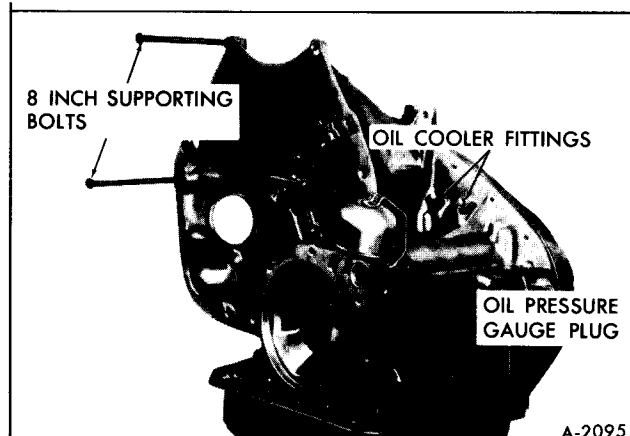

Figure 20—Transmission Support Bolts
1. Install two 3/8 x 8 bolts with nuts into the case to engine mounting face. (figure 20)